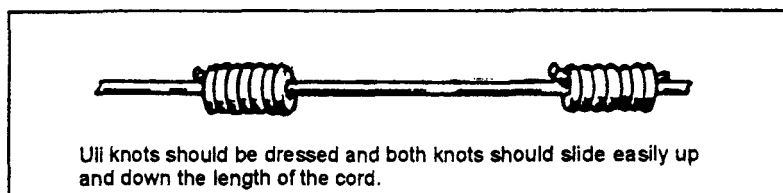

Figure M-2. Sliding uli knots.
(1) Start building the general-purpose charge with a length of detonation cord about 2 feet long. Using another length of detonation cord, tie two uli knots (Figure M-2) around the 2-foot long cord. The uli knots must have a minimum of six wraps and be loose enough for them to slide along the main line. Trim excess cord from the uli knots and secure them with tape, if necessary.